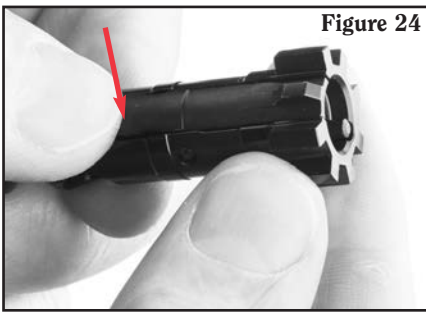

Figure 24
- f. Press the rear of the extractor and check for resistance. (See Figure 24.) If no resistance is present, the extractor must be removed, and the parts must be cleaned.